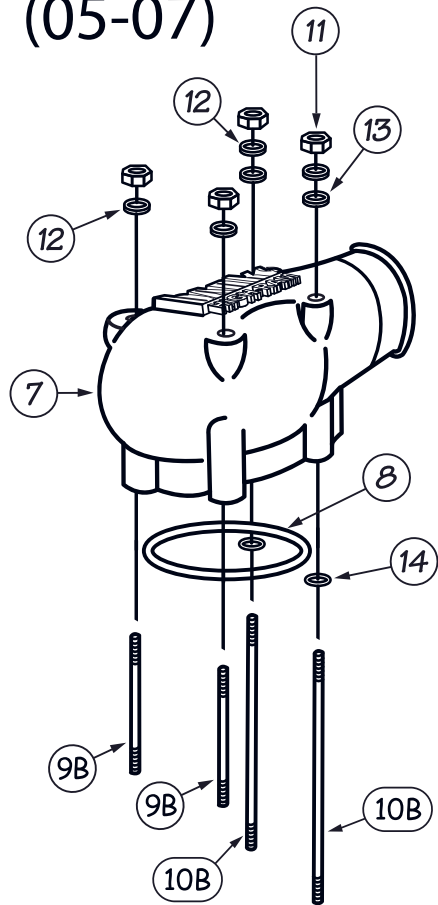

Figure 13
53. 2003 to 2004 vehicles only. Remove 0.75" of the split loom near the connector shown in **Figure 13** to provide additional clearance for the High-Ram.